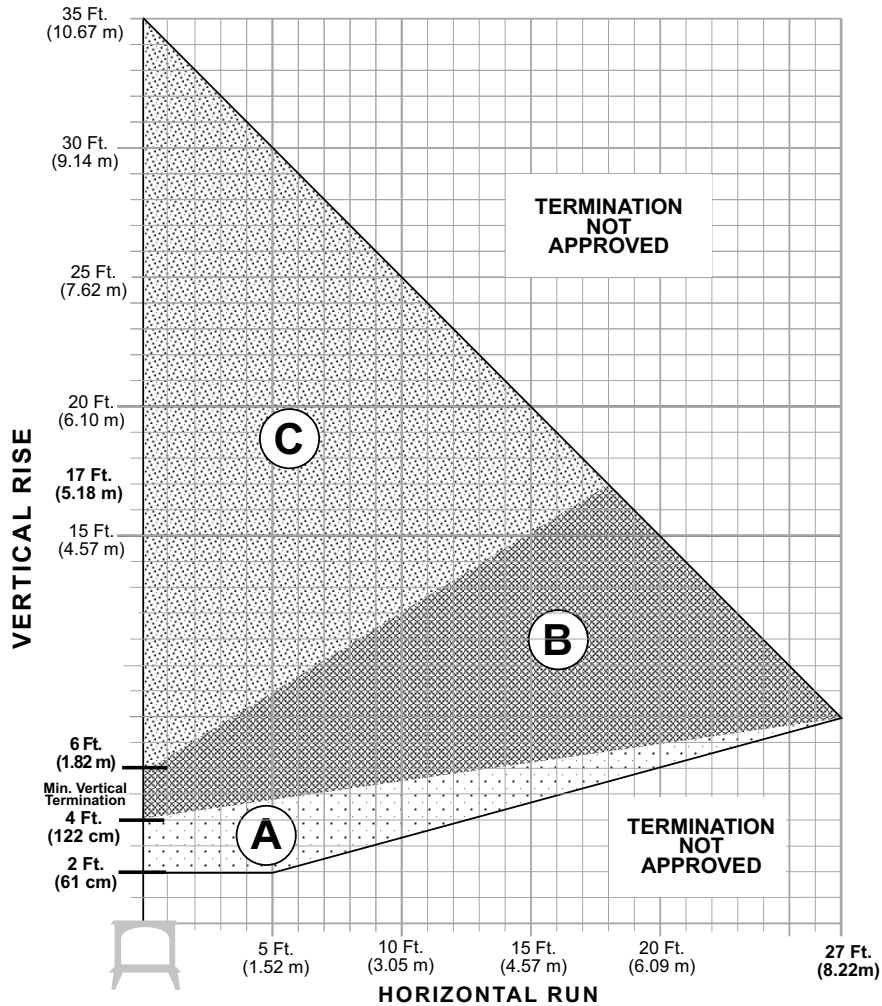

Figure 4.9. Vent Termination Zone Matrix - NG / LP
The circled letter designations in the vent matrix in figure 15 correspond to the Exhaust Restrictor dial settings on the stove. First, determine which vent termination zone is appropriate for your installation, then adjust the restrictor to the corresponding position as shown in figure 4.9.
- The termination should fall within the shaded areas of the grids depicted in the Vent Matrix, fig. 4.9, page 11.
- Any horizontal termination must fall within the shaded portion of the vent window matrix shown in fig. 4.9.